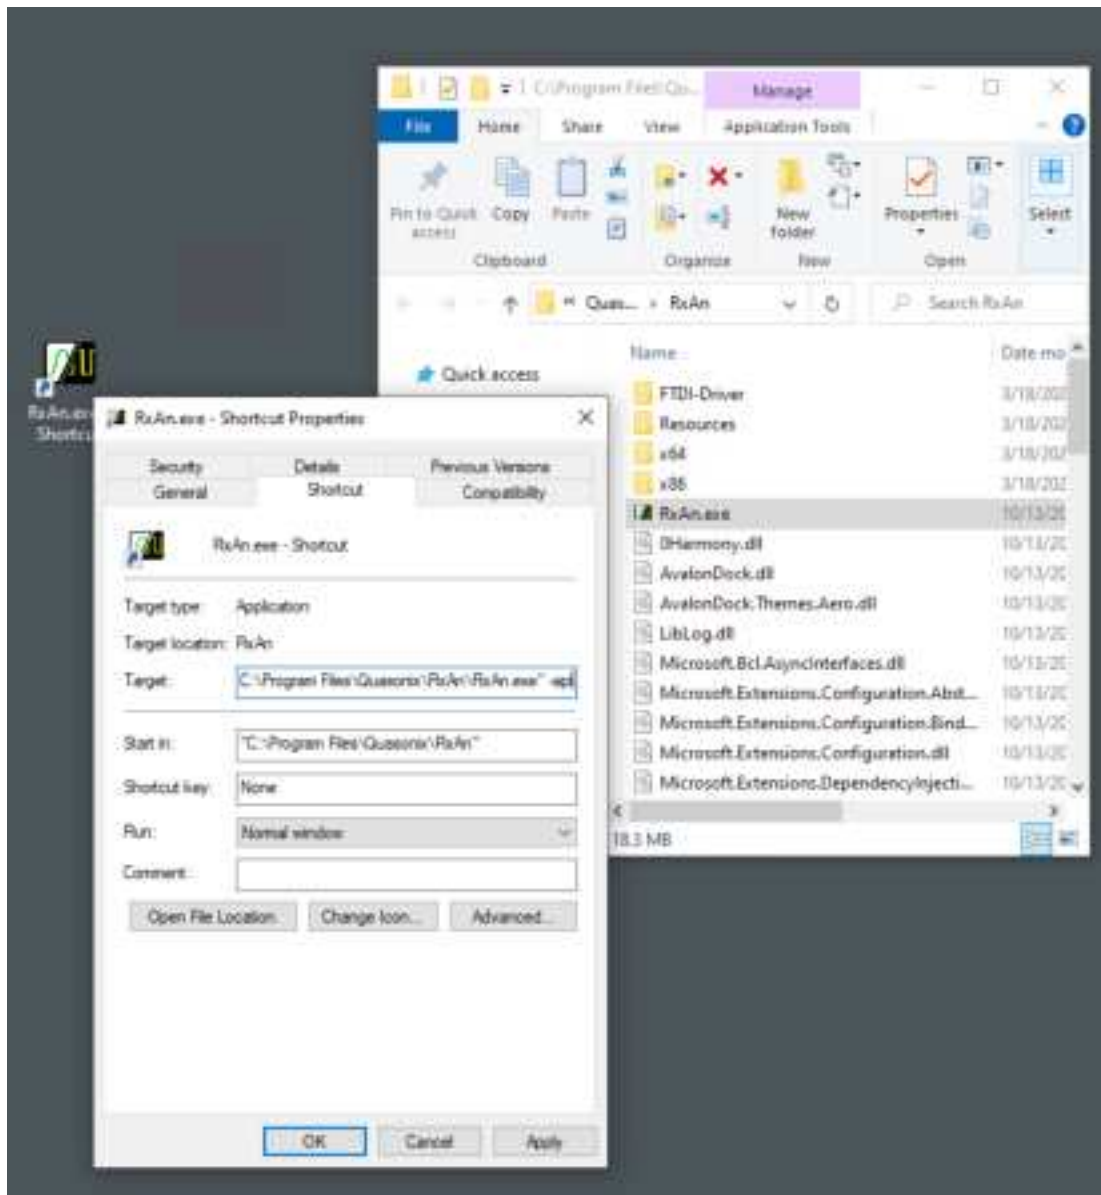

Figure 322: Shortcut Properties, Target Field with Added -api
4. In the Target field, add -api or --apiserver to the end of the line. Include the dashes, as shown in Figure 322.